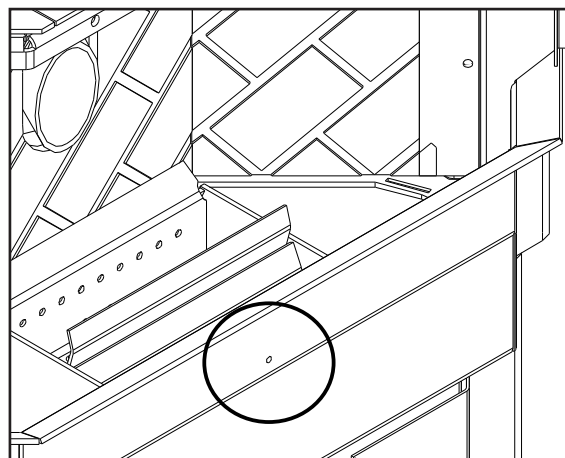

Figure 7: Hole for Pressure test with Magnehelic Gauge.
For troubleshooting purposes the firebox vacuum pressure may need to be confirmed. This should be done only on a hot stove (operating for thirty (30) minutes or more) by placing a Magnehelic Pressure Gauge in the firebox. The reading can be taken from the 1/8" (3 mm) hole located in the front of the firebox under the door (see Figure 7).